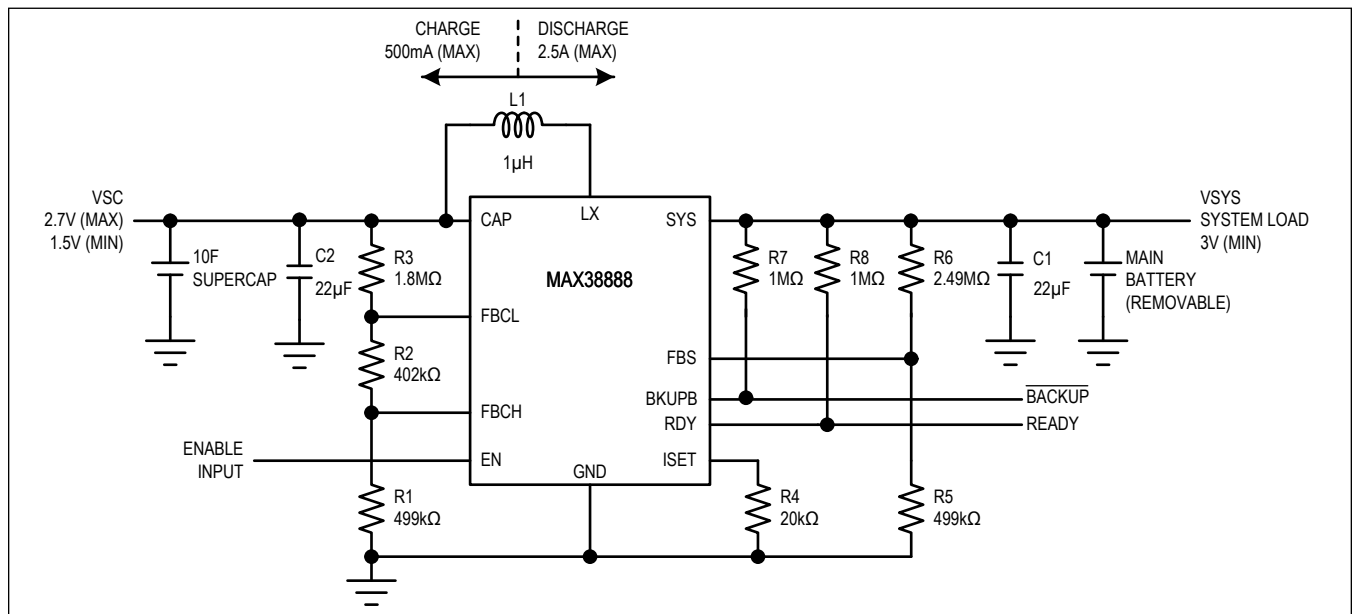

Figure 1. Typical Application
( $V_{\text{SYS}} = 3.7\text{V}$ ,  $V_{\text{CAP}} = 2.7\text{V}$ ,  $T_J = -40^\circ\text{C}$  to  $+125^\circ\text{C}$  (typical values at  $T_J = +25^\circ\text{C}$ ), circuit of Figure 1, unless otherwise specified.)
(VSYS = 3.7V, VCAP = 2.7V, TJ = -40°C to +125°C (typical values at TJ = +25°C), circuit of Figure 1, unless otherwise specified.)
**Electrical Characteristics (continued)**(VSYS = 3.7V, VCAP = 2.7V, TJ = -40°C to +125°C (typical values at TJ = +25°C), circuit of Figure 1, unless otherwise specified.)
The typical application of the MAX38888 is shown in Figure 1.
For example, in Figure 1 (Application Circuit), the minimum value of the supercapacitor required for 1s backup time, assuming a 200mA system load and average efficiency of 93%, will be: